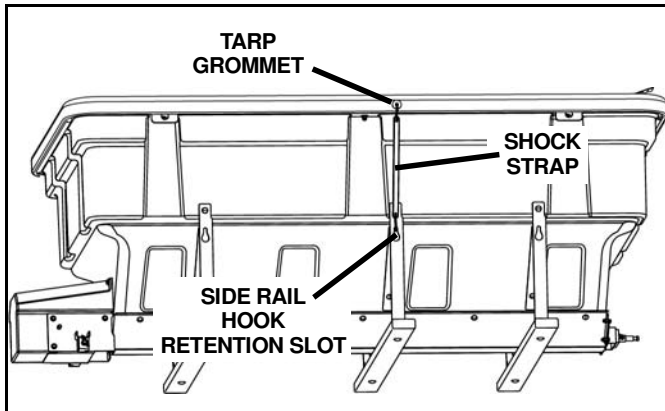

Figure 6
8. Install a rubber shock strap on both sides of the tarp, connected to the center tarp grommet and the frame side rail hook retention slots. (See Figure 6.)